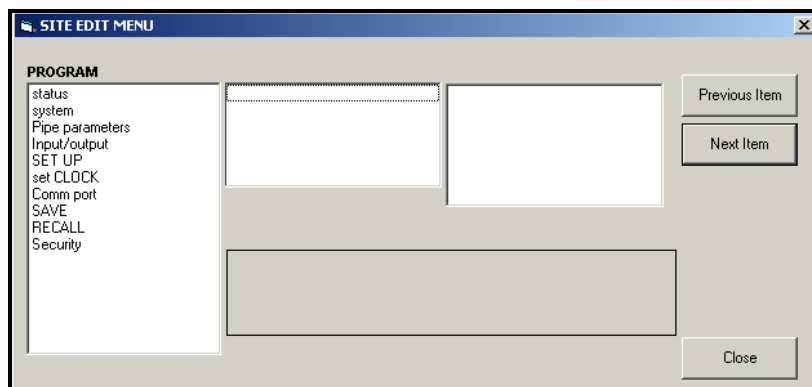

Figure 36: The *Site Edit Menu* Window
- To open a particular menu, double-click on that menu on the tree. For example, if you double-click on the Site Edit Menu, a window opens similar to Figure 36.